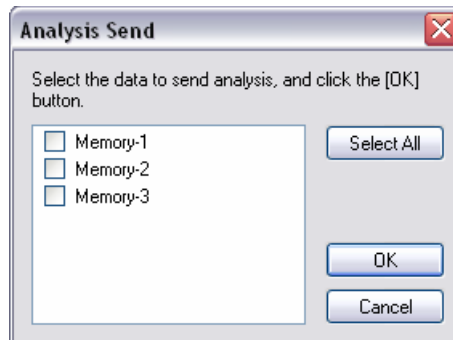

Figure. 6.9 [Save As...] dialog box
- (1) Click [Analysis Send] from the [File] menu or  in the [Spectra Measurement] window. The [Spectra Analysis] window is automatically opened.
- (2) When [Cycle Times] is selected, the following dialog box appears after clicking [Analysis Send]. (In Fig. 6.9, Cycle Times is set to be 3)